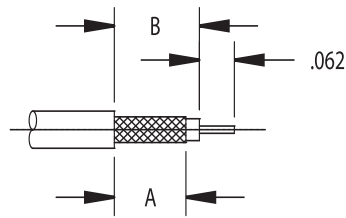

FIGURE 2
2. SLIDE FERRULE ONTO CABLE. FLAIR BRAID. INSERT CABLE INTO BODY, ALLOWING BRAID TO SLIDE OVER OUTSIDE OF BODY. CENTER CONDUCTOR MUST ENTER SLOT IN CENTER CONTACT. SOLDER CENTER CONDUCTOR TO CONTACT. CLEAN. (SEE FIG. 2)
4. PLACE CAP INTO BODY AS SHOWN AND DEPRESS CAP TO EXPAND INSIDE COUNTERBORE OF BODY. (SEE FIG. 2)